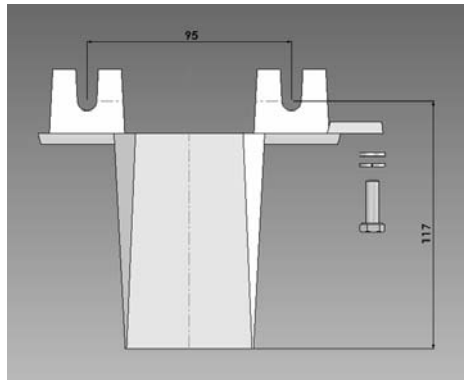

Fig.6 Right hand floor bracket from front
- Fix the heater hand tight to the floor bracket using the hexagonal screws, washers and star washers provided. Thread the screws through the underside of the fixing lugs of the floor bracket into the heater (Fig. 6).